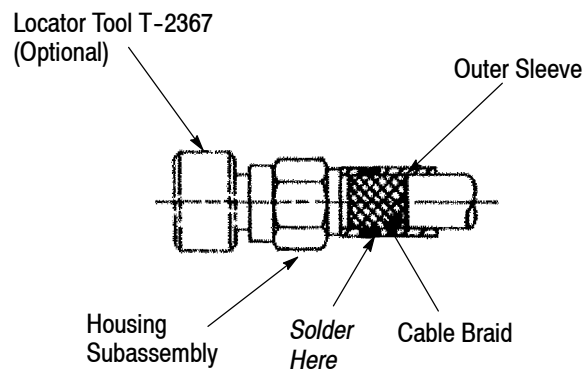

Figure 5
2.3. Soldering the Cable to the Housing Subassembly (Figure 5)